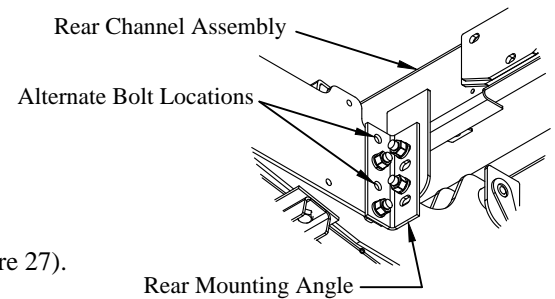

Figure 26: Liftgate adjustment.
7. **Adjust** the rear of the liftgate to the highest position possible using the alternate holes in the brackets (Figure 26).